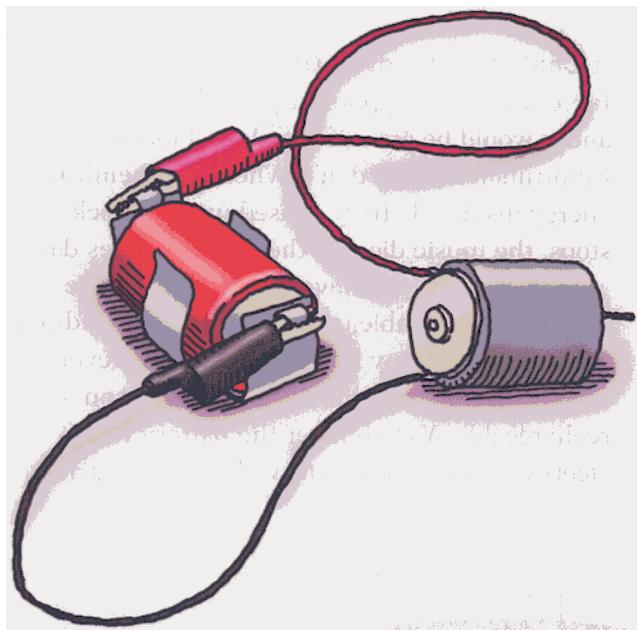

Figure 3.3 What happens when you connect the motor to the battery?
- 7.** Now repeat Steps 4 through 6, using the small electric motor in place of the lightbulb (see Figure 3.3). Record your observations.